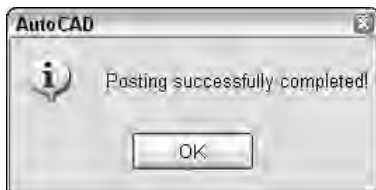

Figure 28-16: Success with the file transfer!
10. Click Post to post your new Web page. AutoCAD opens the Posting Web dialog box, which is like the Save As dialog box. In the Save In drop-down list, choose the desired location. To use FTP to post directly to a server, choose FTP locations or choose FTP from the Places list. (If you're saving to an intranet, you'll choose a location designated by your network administrator.) Double-click the FTP location and wait until you see the folder structure of your Web site. If you want, double-click one of the folders to save there. Click Save. You should see a File Upload dialog box showing the progress of the file transfer. If everything goes well, you'll see the success message shown in Figure 28-16.